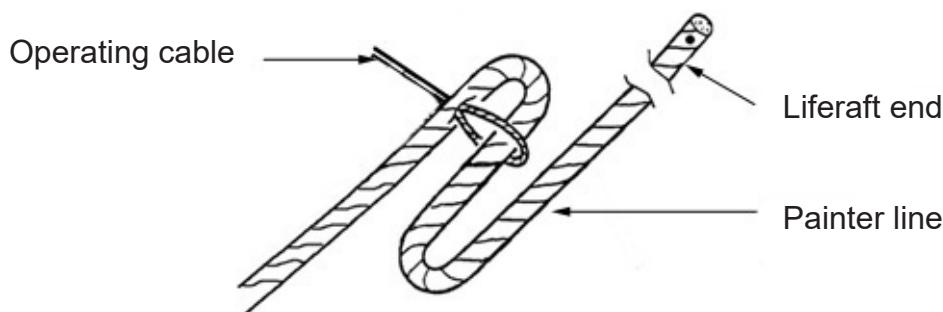

FIGURE A9-6
- 2.20 At the firing point (1.5 m from the end of the line) pass the actuation cable of the operating mechanism through the painter line. Thread the remaining painter line back through the actuation cable. Refer to FIGURE A9-6.